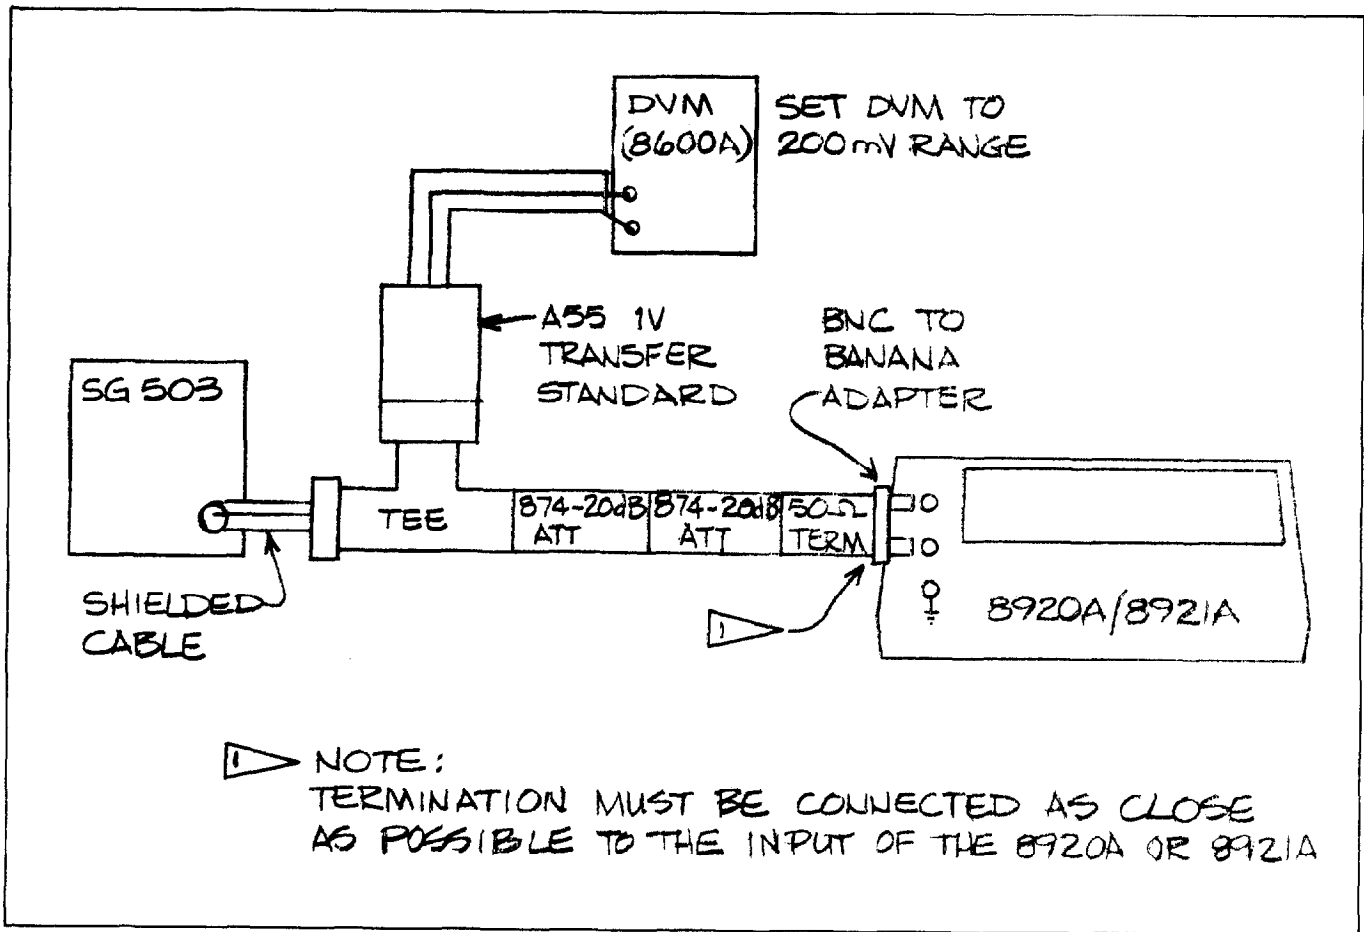

Figure 4-7. High Frequency Calibration Test Set-Up
- For the ranges shown in Table 4-7, adjust the amplitude of the leveled generator at 50 kHz to establish a reference (refer to Figure 4-7, for the test set-up). Use one 20 dB attenuator for 0.1V two attenuators for 0.01V, and three attenuators for .001V terminated with 50 ohms. Take care not to overdrive the transfer standard.